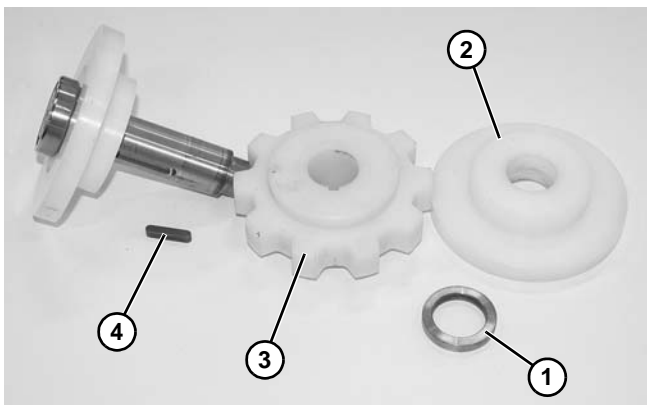

Figure 40
- Remove spacer (**Figure 40, item 1**), support wheel (**Figure 40, item 2**), sprocket (**Figure 40, item 3**), and shaft key (**Figure 40, item 4**) from idler shaft.